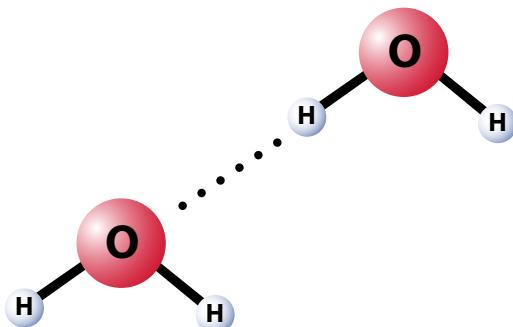

Figure 3.22 Hydrogen bonding.
Hydrogen atoms bonded to the highly electronegative atoms nitrogen (N), oxygen (O), and fluorine (F) can have a unique interaction called **hydrogen bonding** (Fig. 3.22). The more electronegative atom attracts the shared electrons to itself. Because a hydrogen atom only has one electron, this atom is now stripped of electrons and is a virtually bare proton. The bare proton has a very high density of positive charge that feels a strong force of attraction to any unshared pairs of electrons, like those on another N, O, or F atom. This attraction is hydrogen bonding. What makes hydrogen bonding distinct from the ordinary attractions of dipoles is that, in addition to being somewhat stronger, a hydrogen bond has directional character. The H–O–H bond angle for hydrogen bonding is about the same as the ideal tetrahedral angle of 109.5 degrees.